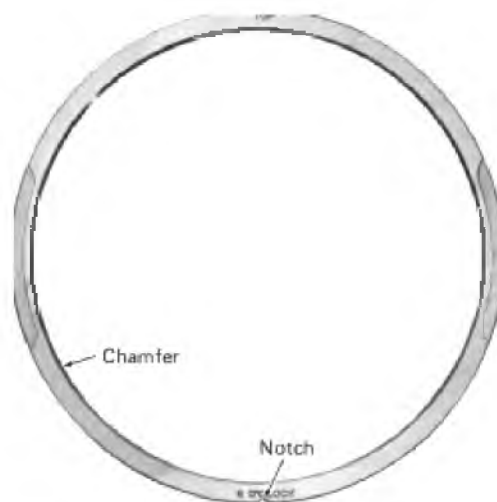

Fig. 5-21 - Cylinder Head Seat Ring
58. Check that the bottom surface of the head is clean and place the seat ring, Fig. 5-21, on the head, making sure that the chamfered side is facing up.